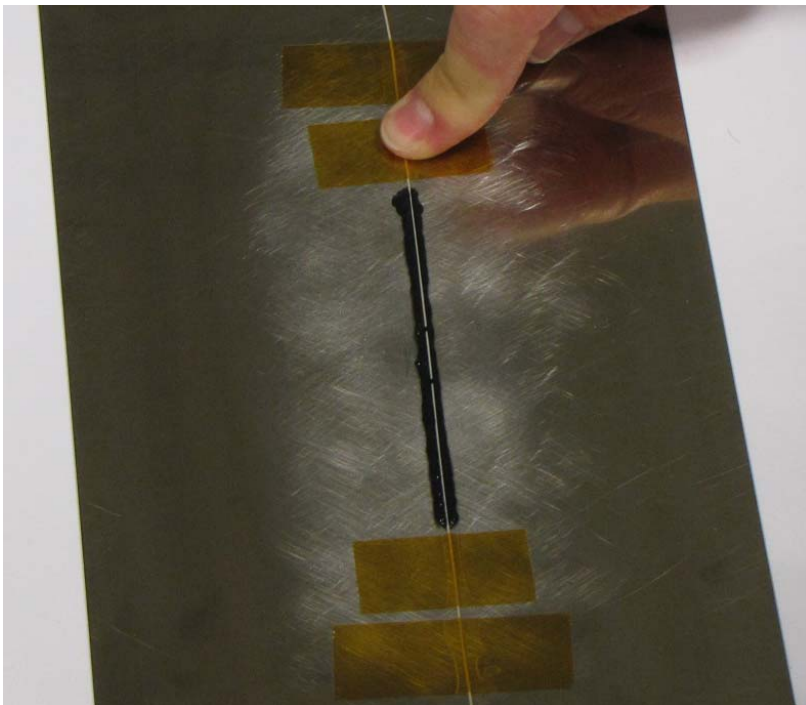

Fig. 2.5: Application of two further adhesive strips at the ends of the adhesive
1. Fix the measuring fiber with two further adhesive strips directly at the ends of the adhesive point (Fig. 2.5).